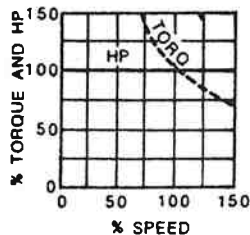

Figure 10-3.
- B. Constant Horsepower - For machines with constant horsepower loads, the power demand is independent of speed and torque varies inversely with speed. This type is most often found in the machine tool industry and with center driven winders. When drilling, shaping, milling, or turning metal, the loads all tend toward constant horsepower. At low speed there is high torque; at high speed, light torque. A drive must be selected for its highest torque condition which is at the lowest speed. Constant horsepower is illustrated in Figure 10-3.